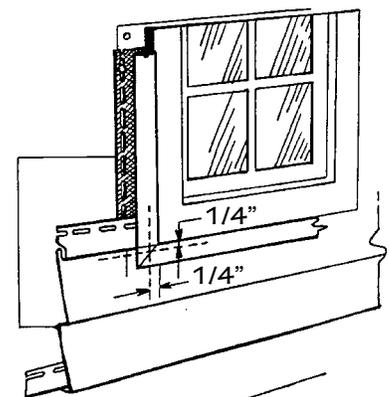

Figure 42.
- Hold the panel under the window and mark the width of the window opening on the panel. Add approximately 1/4" (6.4mm) to both sides to allow for expansion and contraction of the siding. These marks represent the vertical cuts (Fig. 42).